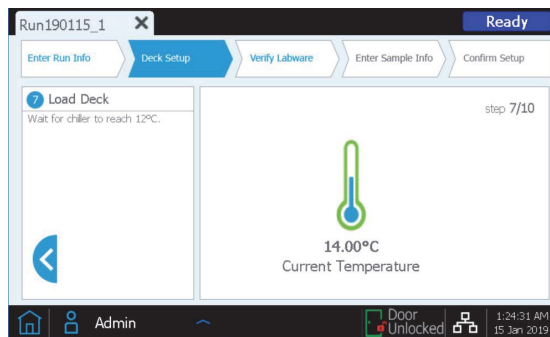

Figure 12. Step 7 of 10 of the Deck Setup screen of the Magnis NGS Prep instrument.
- 07 The instrument's chiller module must reach a temperature of 12°C before loading the Magnis instrument. If said temperature has not been reached at this point, the touchscreen will appear as shown in Figure 12. However, if the chiller has already reached the necessary temperature, this screen will not appear.